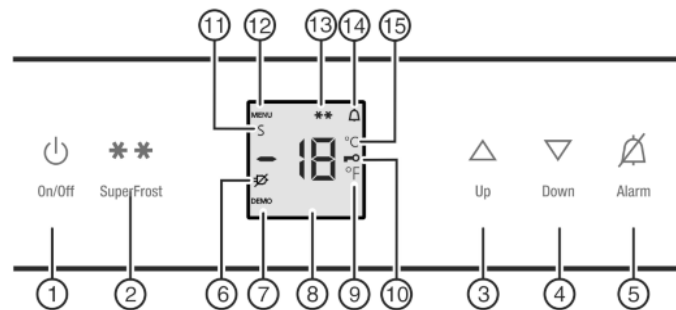

Fig. 2
- Press the On/Off button Fig. 2 (1).
- ▶ To activate setting mode: Press and hold the SuperFrost button *Fig. 2 (2)* for approx. 5 s.
- ▷ The Menu symbol *Fig. 2 (12)* lights up.
- ▶ Using Up button *Fig. 2 (3)*/ Down button *Fig. 2 (4)* select °.
- ▶ To confirm: Briefly press the SuperFrost button *Fig. 2 (2)*.
- ▶ Using Up button *Fig. 2 (3)*/ Down button *Fig. 2 (4)* select °F or °C.
- ▶ To exit setting mode: Press On/Off button *Fig. 2 (1)*.
- ▶ To activate setting mode: Press and hold the SuperFrost button *Fig. 2 (2)* for approx. 5 seconds.
- ▷ In the display, the Menu Symbol *Fig. 2 (12)* is displayed.
- ▶ Confirm briefly by pressing the SuperFrost button *Fig. 2 (2)*.
- ▷ The Child Safety symbol *Fig. 2 (10)* lights up on the display.
- ▶ Press the On/Off button *Fig. 2 (1)* briefly.
- ▶ Press Alarm button *Fig. 2 (5)*.
At the same time, the Alarm symbol *Fig. 2 (14)* will flash.
The audible warning automatically ceases, the Alarm symbol *Fig. 2 (14)* goes out, and the temperature display stops flashing when the temperature is cold enough again.